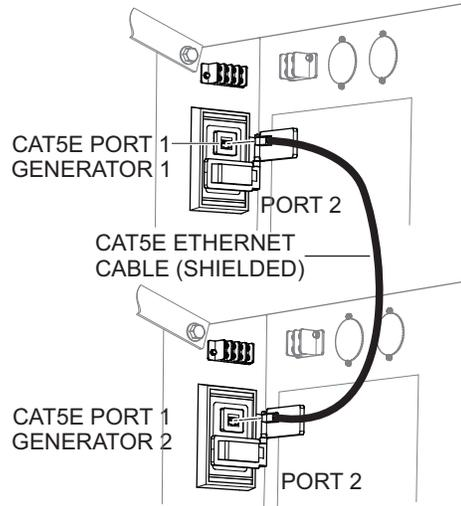

Figure 4. Ethernet Cable Connection
1. Connect a **shielded CAT5E ethernet cable** between **port 1** on both generators as shown in Figure 4.